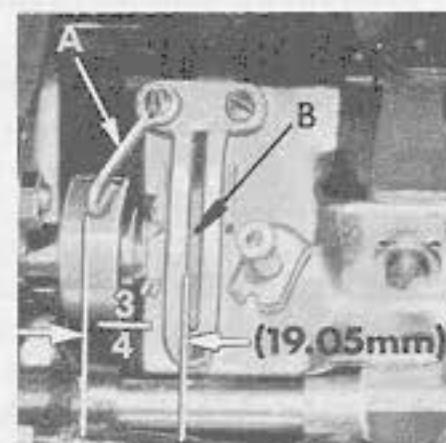

Fig. 13
Set the looper thread guide eyelet (A, Fig. 13) so its left outer surface is $\frac{3}{4}$ inch (19.05 mm) from the left side of the looper thread take-up (B), (See Fig. 13).